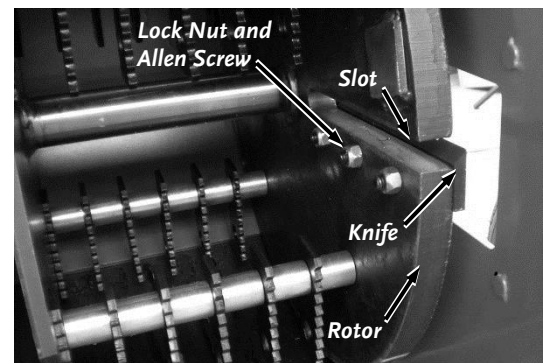

Figure 36
11. Insert a 3/16" Allen Wrench into the head of the Allen Screw and remove the Lock Nut using a 1/2" Wrench (**Figure 36**).